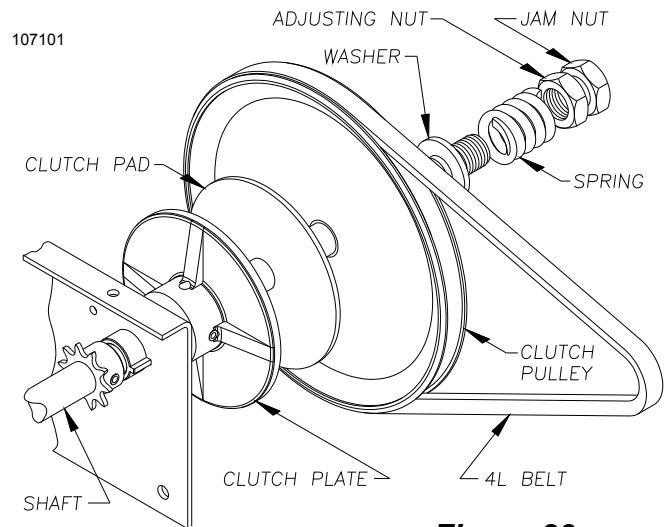

Figure 23
1) With the cover open on the electrical enclosure, reference Figure 23 below. There are two (2) switches (A and B) mounted to the 'V' bracket (F). The switches are activated by the two limit nuts (C and E) on the threaded shaft which move laterally along the shaft as the operator opens and closes the door. When a limit nut nears the end of the shaft it activates a switch, that send a message back to the motor control board to stop the door. Follow either 2 or 2A below depending on how the door and trolley are orientated.
2) For original installation setting, the door (connected as normal to the operator trolley) should be positioned approximately 4 inches shy of the fully closed position. If this is the case, depress the Limit Nut Retention Plate (D) so it disengages from the slots in the limit nuts and move the Close Limit Nut (C) on the shaft until it engages the Close limit Limit Switch (B) (see Step 5 for an explanation of the Close limit function). You will need to listen for an audible click. Move the Open Limit Nut (E) to the center of the threaded shaft. Release the retaining bracket and be sure that it engages in slots of both limit nuts.